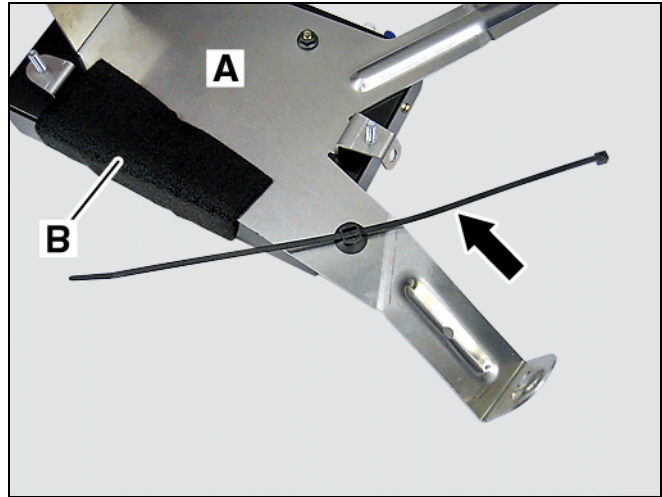

Figure 8
2. On Model 211.076 (E55 AMG), insert the anchor of the wire tie (Arrow, Figure 8) into the predrilled hole in the SDARS control module bracket (A, Figure 8).
3. Place felt tape (B, Figure 8) over the bottom side of the bracket assembly.